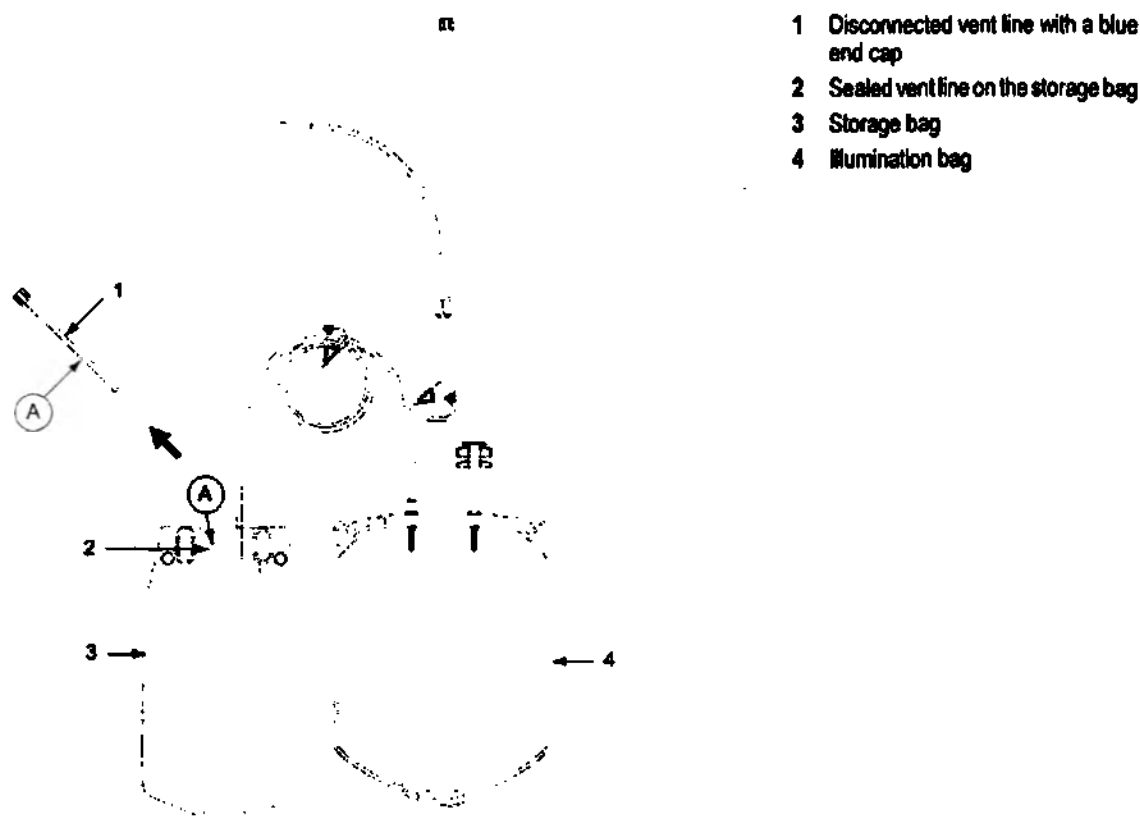

Figure 2: Removing the vent line
3. Permanently seal and disconnect the vent line on the storage bag (Line ④) using a tubing sealer device. Seal the line as near to the storage bag as possible, as shown in Figure 2.